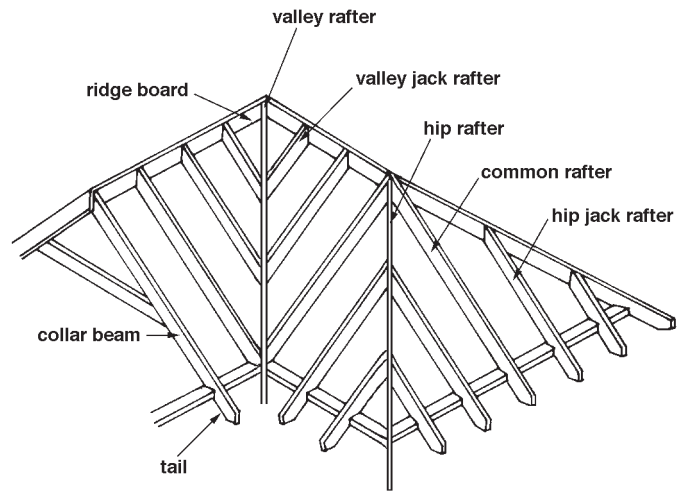

Figure 6. Hip and Valley Framing
**ridge board.** A member made of 1- or 2-inch board, against which the upper part of the rafters rest. The rafters of one side of the roof meet the rafters from the other side of the roof at the ridge board (Fig. 6).
- tail.** That portion of a rafter or truss that extends beyond the outside edge of the place (Fig. 6).
- U factor.** A measurement of the ability of a material to conduct heat. The lower the conductance (U Factor) the less heat loss through the material. The units for total conductance (U) are BTUs per hour per square foot of material per degree Fahrenheit temperature difference across the material.
- valley.** An inside corner in the roof (Fig. 6).
- valley rafter.** The main rafter of the valley which forms the roof break line (Fig. 6).